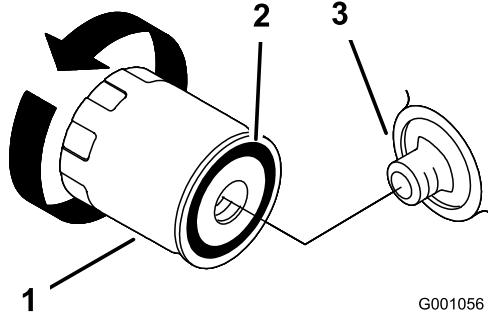

Figure 21
- Remove the old filter and wipe the filler adapter gasket surface (Figure 21).
- Apply a thin coat of new oil to the rubber gasket on the replacement filter (Figure 21).
- Install the replacement oil filter to the filter adapter, turn the oil filter clockwise until the rubber gasket contacts the filter adapter, then tighten the filter an additional 2/3 to 1 turn (Figure 21).